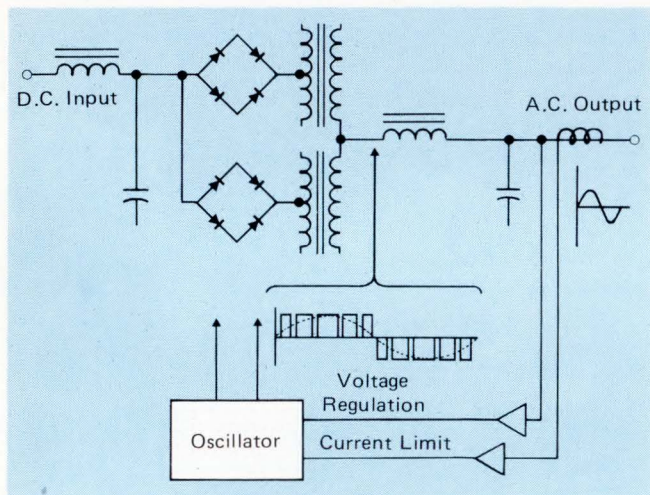

Fig 5 Pulse width modulated inverter.
**Pulse-width modulation (Fig 5):** The commercial availability of ever more complex integrated circuits has eliminated early PWM user concerns, complexity, thus reliability. With PWM, a square wave is generated at a comparatively high frequency, 1.2 to 2.4KHz in SCR inverters, up to 40KHz in transistor inverters. The sine wave is synthesized by varying the duty cycle so that off-time is long compared to on-time near the zero crossing of the desired 60-Hz waveform, with a very long on-time, compared with off-time, at the crest. Output filtering, thus impedance, is greatly reduced with this technique, yielding excellent efficiency and transient response.